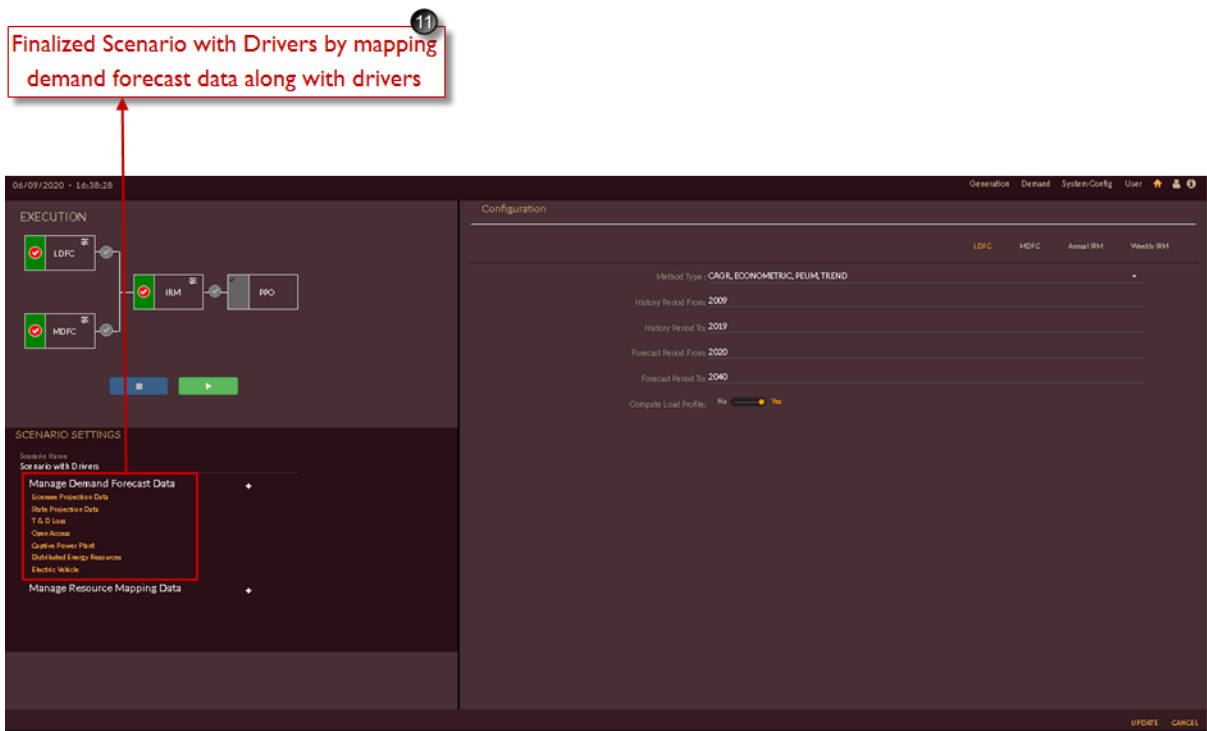

Figure 110. Finalized Scenario with Drivers
11. After saving all the parameters such as Licensee, State, T & D Loss, Open Access, Captive Power Plant, Distributed Energy Resources and Electric Vehicle data into the Scenario with Drivers you will see the page as shown in Figure 110.